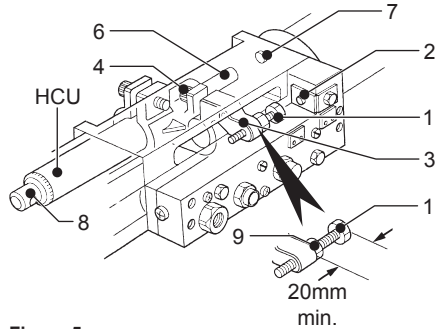

Figure 5
- Use Figure 5 (1) for the final depth adjustment.
- Lock using Figure 5 (9).
- Set the gap between Figure 5 (2) and (1) to equal the tapping depth PLUS the distance the tap is above the work piece.